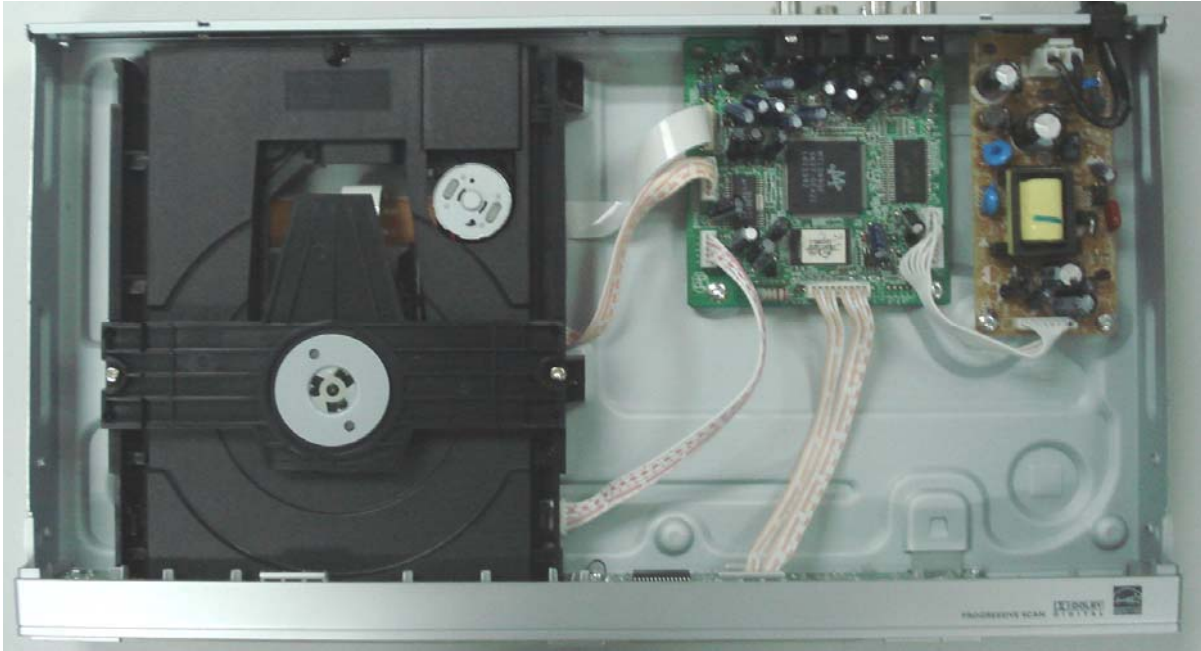

Figure 1
Step1: Remove 5 screws around the Top Cover, then remove the Top Cover (Figure 1).